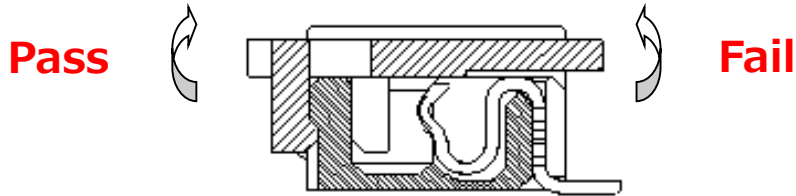

Fig.21
- To remove a vacuum cap from receptacle connector, pull up the opposite side of the lead or the both edges of a vacuum cap as shown in Fig.21.